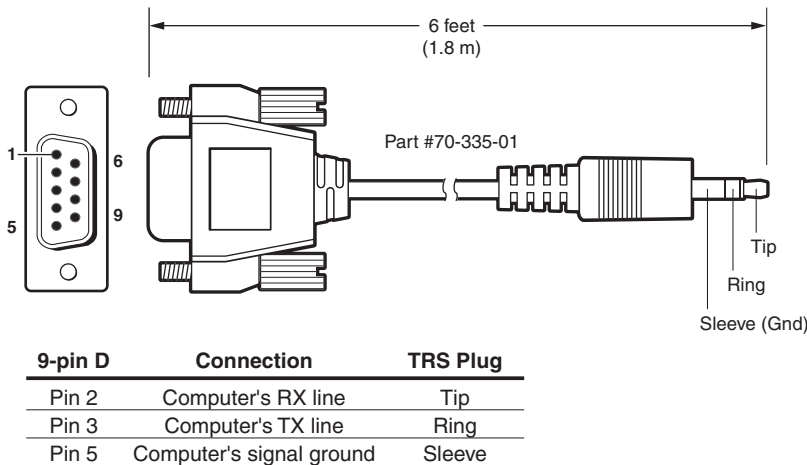

Figure 2-16 — Optional 9-pin TRS RS-232 cable
- 14 Configuration port** — This 2.5 mm mini stereo jack serves the same serial communications function as the rear panel Remote port, but it is easier to access than the rear port after the matrix switcher has been installed and cabled. The optional 9-pin D to 2.5 mm mini jack TRS RS-232 cable, part #70-335-01 (figure 2-16), can be used for this connection.